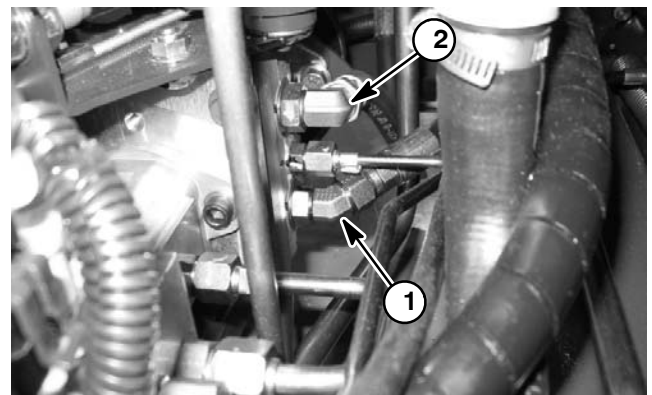

Figure 21
7. Clean hose fitting and disconnect appropriate hydraulic hose from fitting on the rear side of the traction pump (Fig. 21):